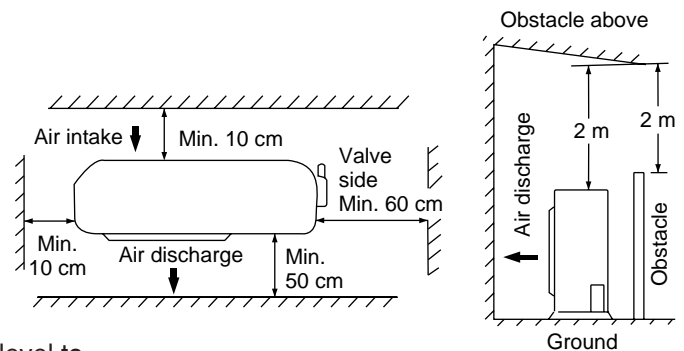

Fig.3
- allow enough room around the unit for air intake /exhaust and possible maintenance. (Fig. 3)